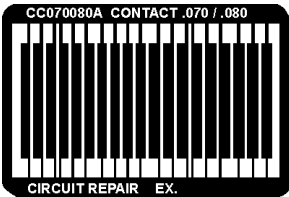

Figure 2: Select a replacement edge contact that matches the missing contact.
6. Select a replacement edge contact that most closely matches the size and shape of the missing edge contact. (See Figure 2).